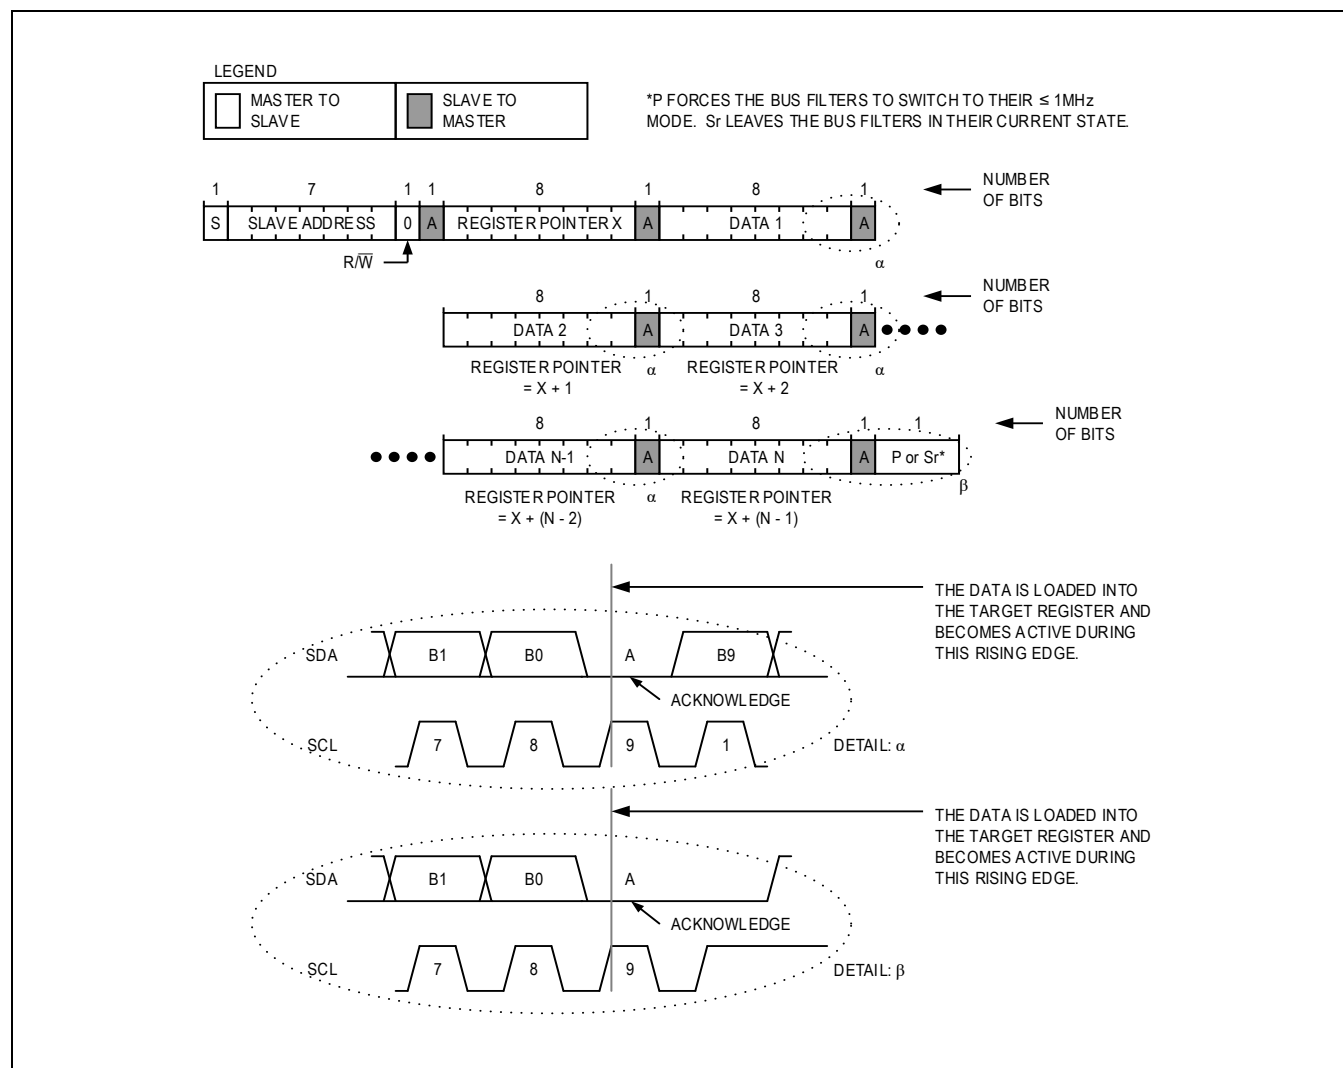

Figure 14. Writing to Sequential Registers
Figure 14 shows the protocol for writing to sequential registers. This protocol is similar to the “Write Byte” protocol, except the master device continues to write after the slave device receives the first byte of data. When the master is done writing data, it issues a STOP condition (P) or REPEATED START condition (Sr).